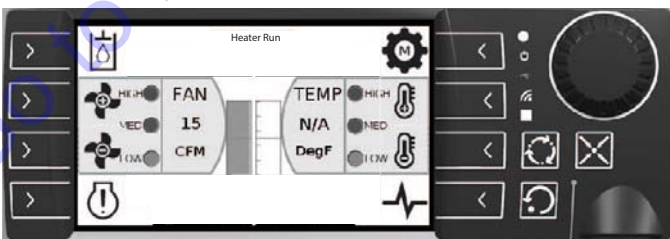

Figure 3-3. Heater Run
9. See Figure 3-3. Wait for controller to display *Heater Run*.